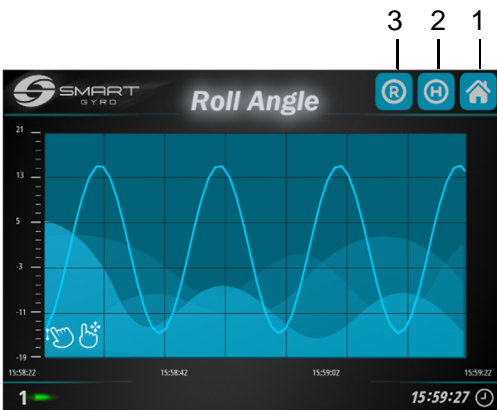

Figure 26
the Roll Angle page is visualized on the display (**Figure 26**).
Pressing the “R” icon on the top right corner (**Figure 26, (3)**), the
Pressing the “H” icon (**Figure 26, (2)**), the display visualizes the data stored in the non volatile memory of the Display, as a background process.
Pressing the Home icon on the top right corner (**Figure 26, (1)**) will return you to the Home page.